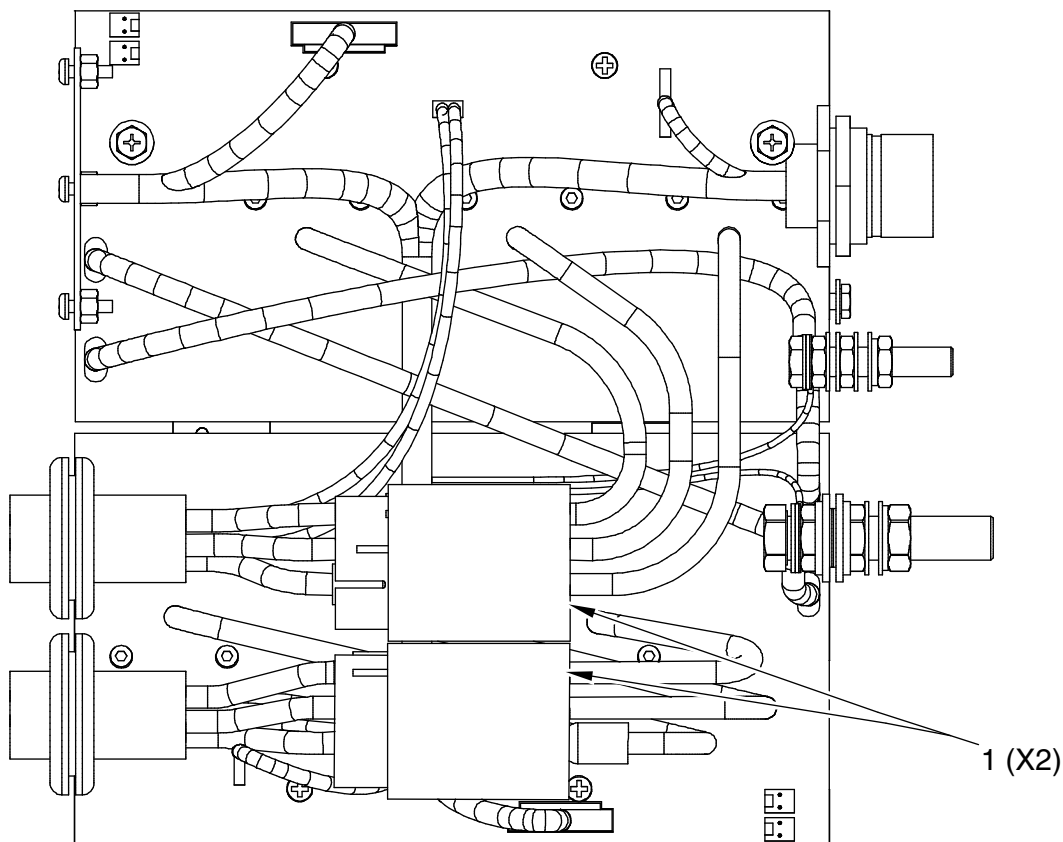

Figure 4
- (10) Each power cable assembly to each compressor is made up of 5 conductors. The three large conductors are the power conductors which terminate at the large black slide connectors (1, Figure 4). The two smaller conductors are signal conductors. Do not cut or change the two small conductors.
With a pair of appropriate wire cutters, cut each of the three large conductors on each side of the large interface connector (1, Figure 4) as close to the connector as possible. A total of 12 wires shall be cut, 6 associated with each compressor. Remove and discard the black slide connectors (1, Figure 4).